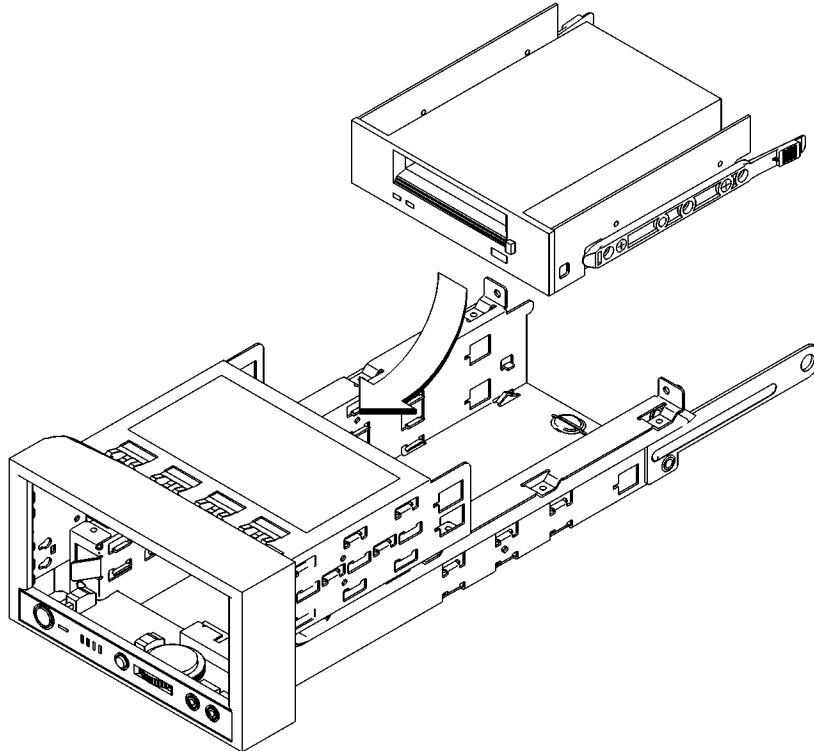

Figure 26
- 2 From the rear of the storage tray, line up the disk slides on the CD-ROM or DDS tape drive with the position 1 slots in the storage tray chassis, and slide it into place, as shown in Figure 26.